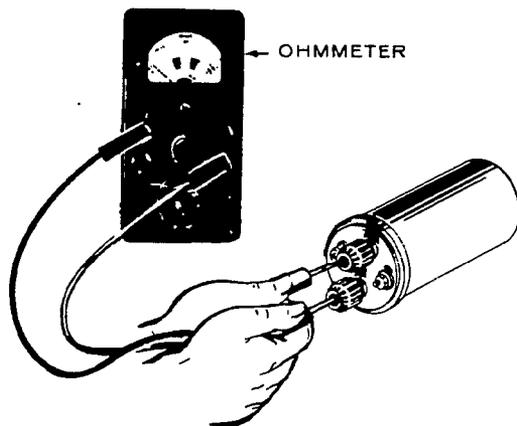

FIGURE 3. COIL TEST
3. Change resistance setting on ohmmeter. Place ohmmeter leads inside of spark plug cable holes (Figure 3). Secondary resistance should read 12,600 - 15,400 ohms.